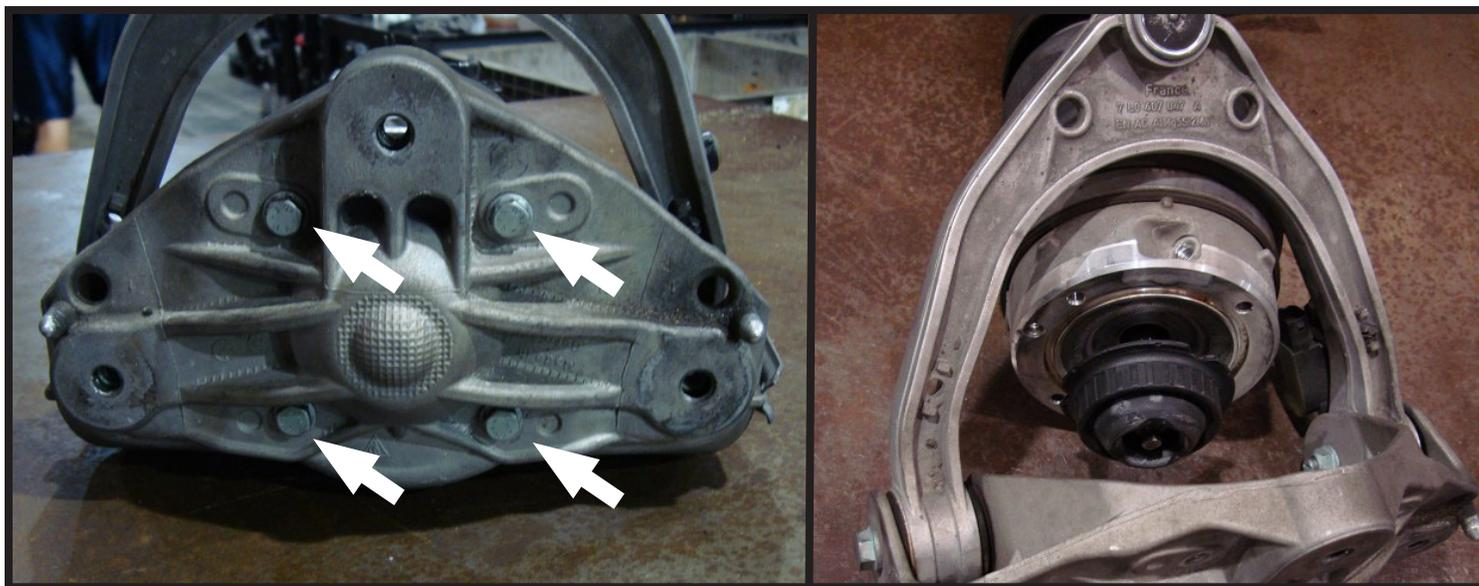

FIGURE 20-1
1. REMOVE AND DISCARD THE FOUR BOLTS SECURING THE AIR SPRING TO THE AIR SPRING UPPER MOUNT. (FIGURE 20-1)